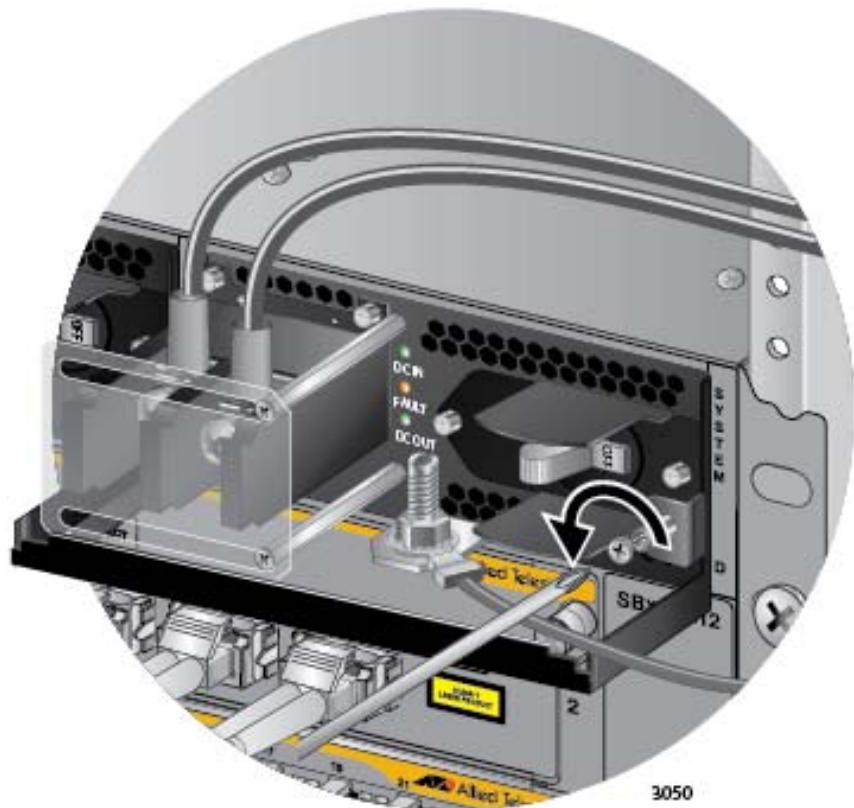

Figure 138. Loosening the Screw on the Locking Handle
3. Use a #2 screwdriver to loosen the screw on the locking handle. Refer to Figure 138.